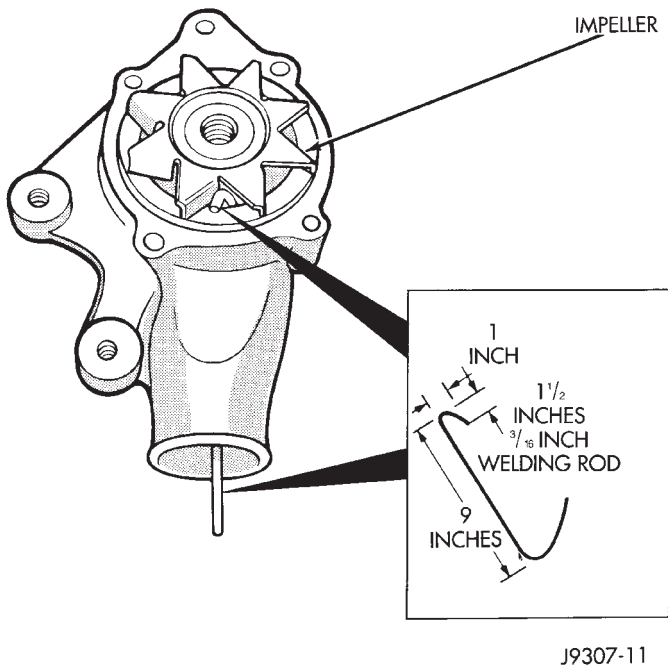

Fig. 3 Impeller Test—Typical
(1) Drain the cooling system. Refer to Draining Cooling System in this group.
(2) Loosen the fan belt. Refer to Belt Service in the Engine Accessory Drive Belt section of this group.
(3) Disconnect the lower radiator hose from the water pump.
(4) Bend a stiff welding rod or similar device as shown in (Fig. 3). To prevent breakage of rod, minimum thickness should be 3/16 inch (.187 inches).
(5) Position the rod in the water pump inlet and attempt to hold the impeller while turning the fan pulley. If equipped with a thermal viscous fan drive, rotate the water pump shaft with a wrench attached to one of the fan pulley mounting nuts. If the impeller is loose and can be held with the rod while the fan blades are turning, the pump is defective. Do not